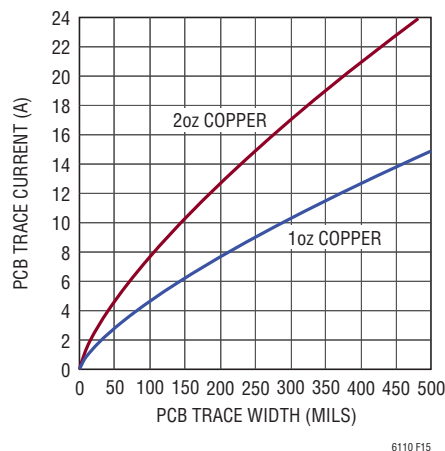

Figure 15. PCB Trace Current vs Trace Width (<10°C Temperature Rise)
In a high load current application without a high precision load regulation specification, the cost of an external R_{SENSE} resistor can be eliminated using the resistance of a printed circuit board, PCB, trace as a sense resistor. The resistance, R_{PCB} , is a function of copper resistivity (ρ), PCB copper thickness (T), trace width (W) and trace length (L), $R_{PCB} = \rho (L / (T \cdot W))$. The typical manufacturing of PCB fabrication limits the trace resistance tolerance to ±15%. A simplified R_{PCB} calculation sets the length equal to the width ($L/W = 1$) and approximates 0.5mΩ and 0.25mΩ per square trace area for 1oz and 2oz copper respectively. The maximum current of a PCB trace depends on the trace cross sectional area, trace width (W) times copper thickness (T) and the amount of heating of the trace permitted. Figure 15 plots PCB trace current vs PCB trace width for 1oz (T = 1.4mils) and 2oz (T = 2.8mils) copper for less than 10°C temperature rise (this graph provides a conservative maximum trace current estimate based on the ANSI IPC2221 standard).
Using Figure 15, the 2oz copper minimum trace width for 10A is 150mils. This sets the current handling capability of the trace.